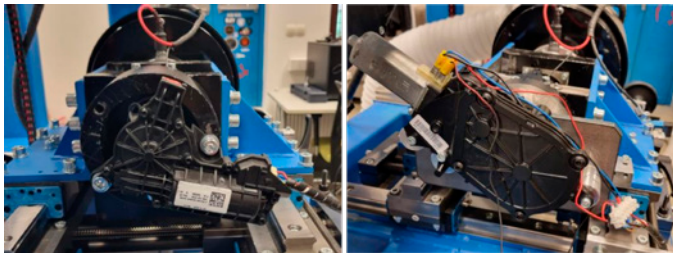

Figure 8—Validation on the final application.
- Testing of gears in the final application—product validation, as shown in Figure 8. The production of tools for injection molding is expensive and time-consuming. It is important to do all the previous steps well and produce the tools only once.